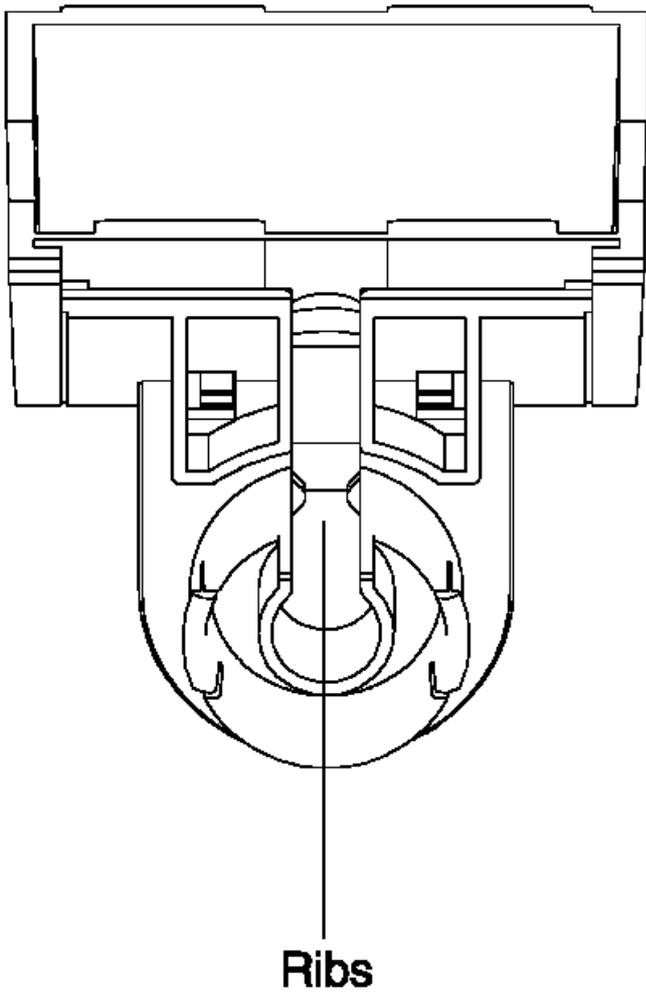

Figure 3-23. Display Holder Ribs
7. Tilt the display holder down and remove the cables from between the ribs. See Figure 3-23.
|    tube. See Figure 3-23.
6. Tilt the display holder to a position where you can remove the cables from between the two ribs. See Figure 3-23 in topic 3.8.1.